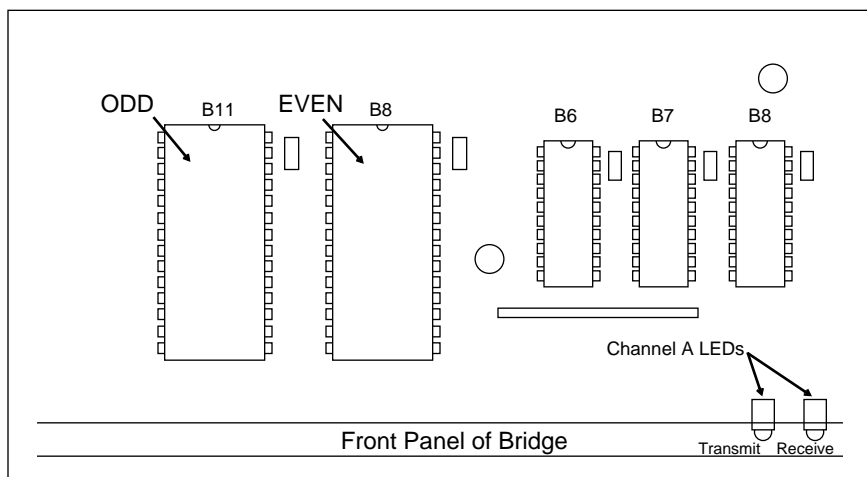

Figure 1: Location and Orientation of the EPROMs on the AT-6870/6875 Logic Board
4. Orient the unit with the front towards you. The power supply should be on the left, and the port LEDs should be on the right. See Figure 1.
6. Referring to Figure 1, observe the orientation of the two EPROMs. Insert the EPROM marked "ODD" in the socket on the left, B11 on the Printed Circuit Board (PCB) silkscreen. Insert the EPROM marked "EVEN" in the socket on the right, B8 on the PCB silkscreen. The notched end of the EPROMs' ceramic cases go toward the back of the logic board. When inserting the EPROMs in their sockets, carefully line up the pins with the socket contacts, and exert just enough insertion force to slide the pins into the contacts evenly and completely.